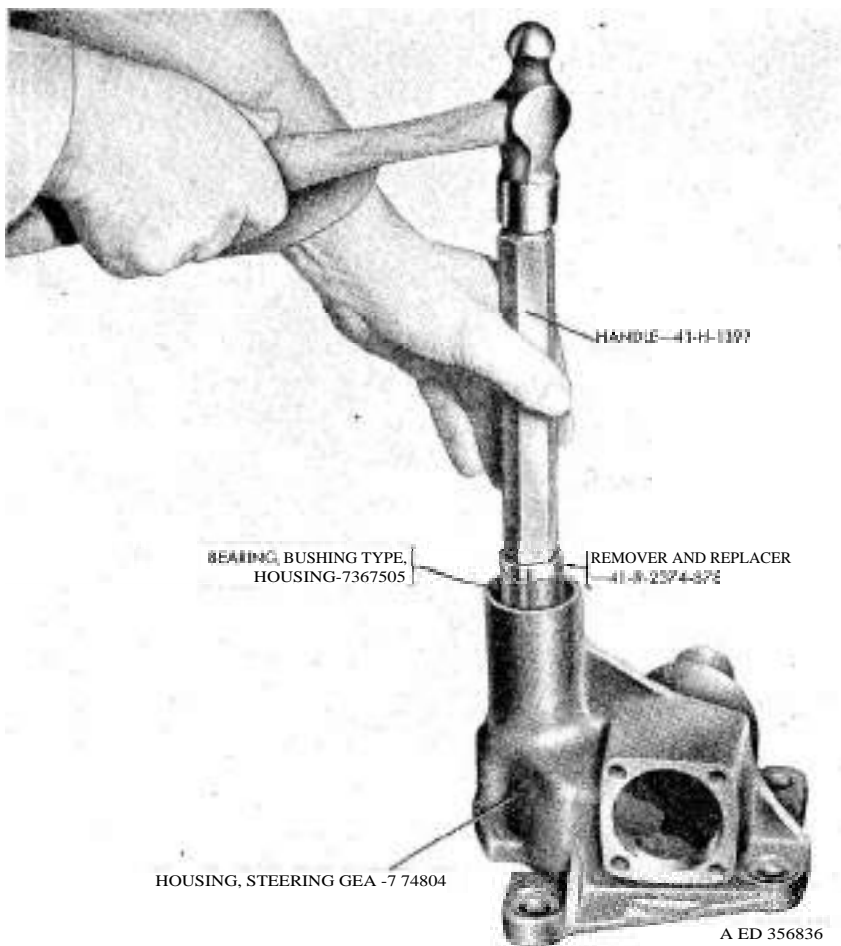

Figure 162. Removing and installing housing bushing-type bearing.
of housing bushing-type bearings (J and AA) is necessary, drive bearings from steering gear housing (K) with remover and replacer 41—R-2374-878 and handle 41—H-1397 (fig. 162).
b. Install Worm Upper Bearing Cup. If inspection (par. 184c) reveals that it is necessary to replace worm upper bearing cup (BB), install bearing cup in steering gear housing (K) . This operation can be performed with an arbor press or a bronze drift and hammer. Make certain cup is firmly bottomed in steering gear housing counterbore.
- (1) If inspection (par. 184a) reveals that it is necessary to replace housing bushing-type bearings (J and AA) , install new bearings in steering gear housing with remover and replacer 41-R-2374-878 and handle 41-H-1397 (fig. 162) .
- (2) If necessary, ream bushing-type bearings until Pitman arm shaft is just a free fit without play.